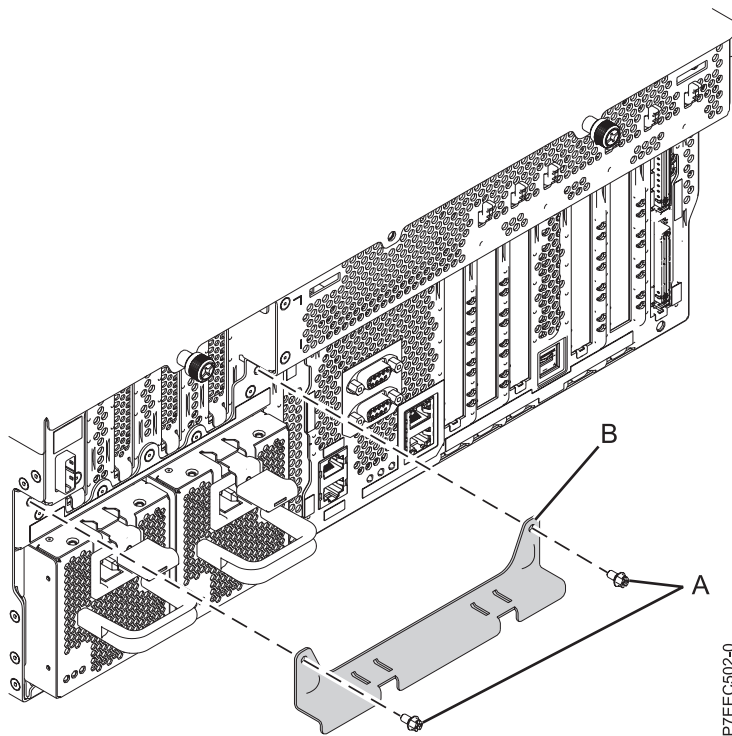

Figure 10. Removing the shipping bracket
9. Remove the shipping bracket that is on the left side of the rear of the system before you cable it, as shown in Figure 10. To remove the shipping bracket, complete the following steps:
- a. Remove the two screws (A).
- b. Pull the bracket off of the system (B) so that the power supplies unlatch from the bracket.